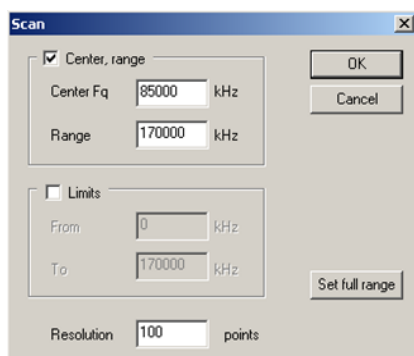

Figure D-5: 100 points and 'Set full range'
- Select **Action > Scan** to configure the resolution and scanning range. Type 100 points for the resolution, click the **Set full range** button (or press **F9**) and click **OK** as shown in Figure D-5. A measurement will be triggered.